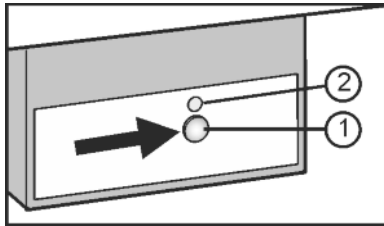

Fig. 19
- ▶ Press On/Off button Fig. 19 (1) so that the LED Fig. 19 (2) lights up.